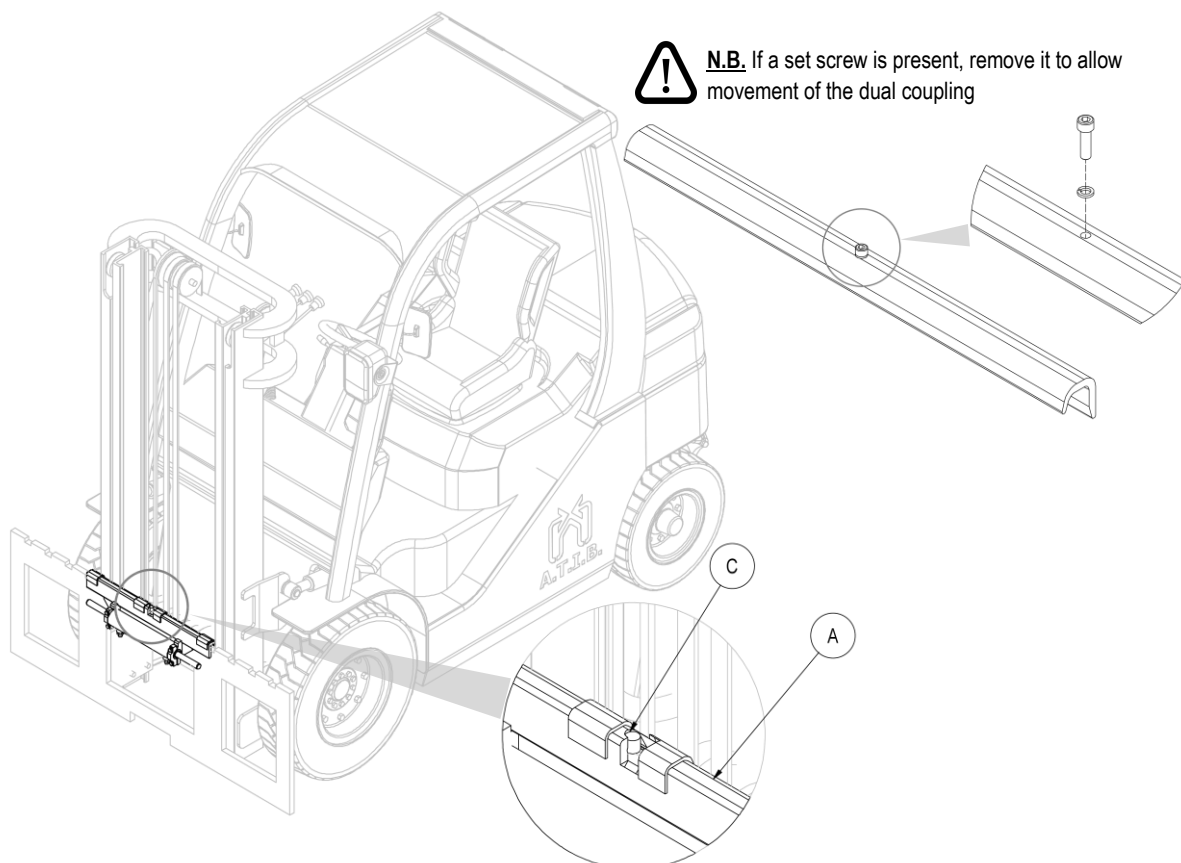

Figure 6
4. Obtain the dual coupling **A** (with its sliding bushes and sideshift cylinder), and position it on the upper profile of the fork carriage, taking care to fit the centring pin **C** into its central notch (see *Figure 6*).